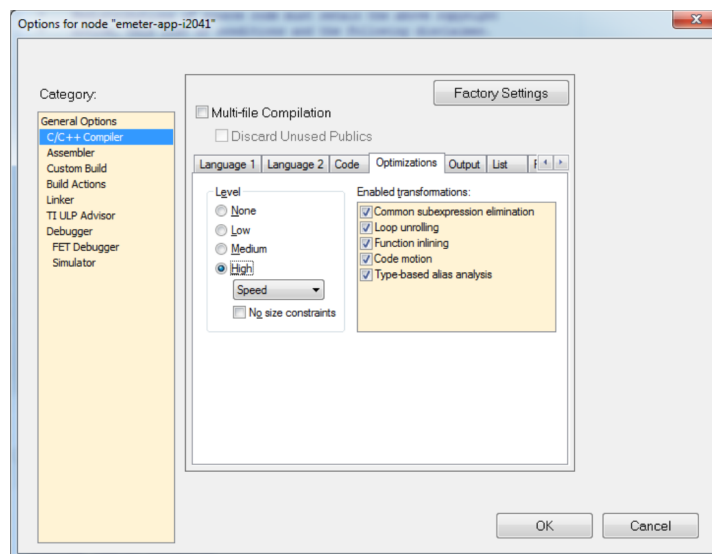

Figure 25. Optimization Options
5. When the options appears, select C/C++ compiler on the left hand column and then select the Optimizations tab on the right hand side and check that the optimization setting is as shown in Figure 25).